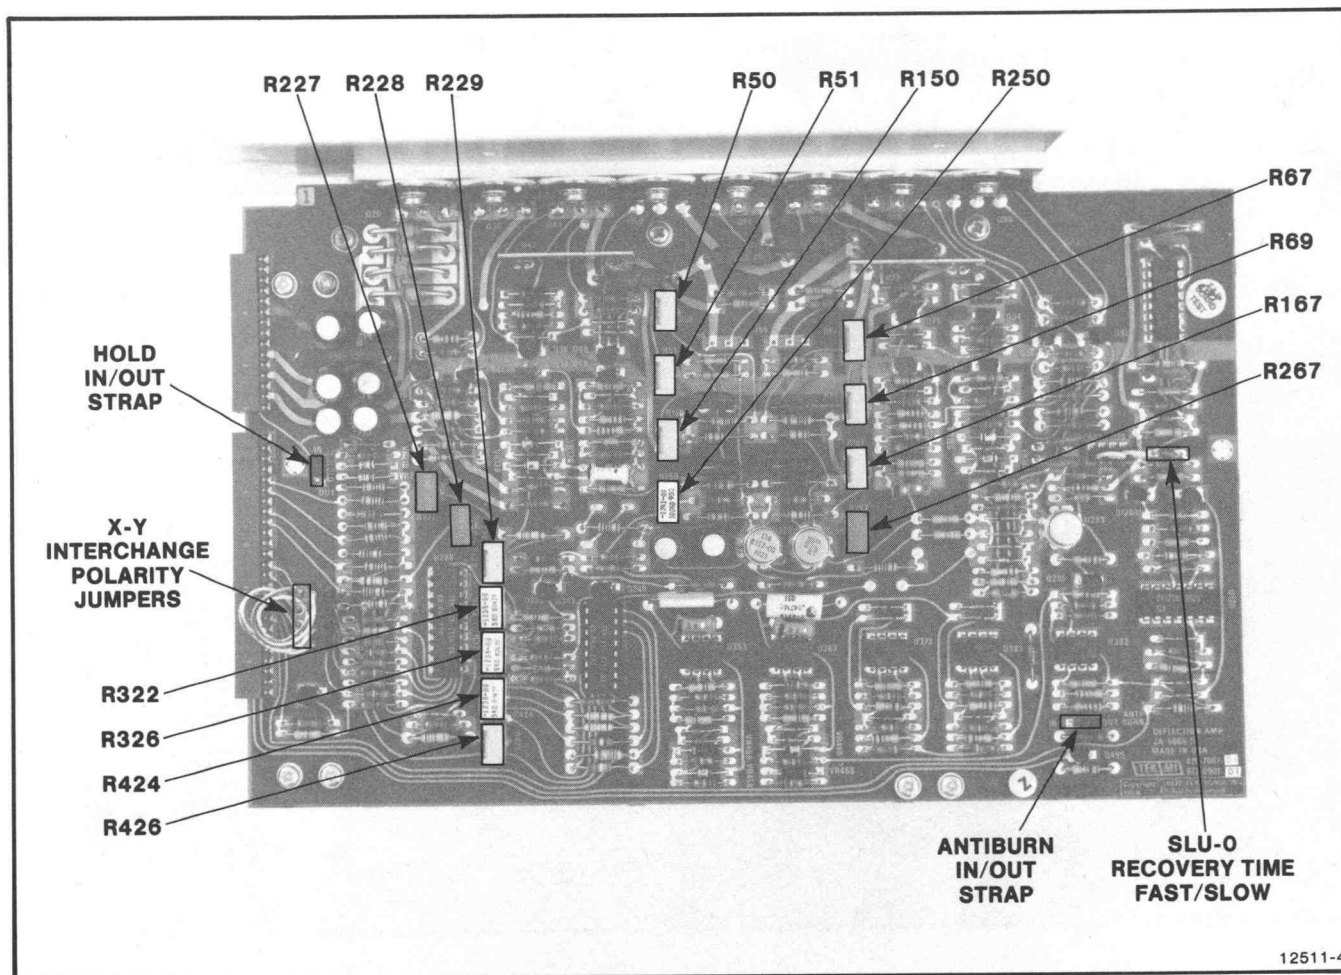

Figure 4-4. Deflection Amplifier Board Adjustments, Straps, Jumpers, and Test Points.
13. **Set** the ANTIBURN jumper to the IN (lower) position on the Deflection board. Check the J311 and J314 straps for proper installation. Make sure that the J199 four-pin jumper is set to the FAST position. And make sure that the Hold mode jumper is set to the IN position (toward the rear). Figure 4-4 shows the Deflection board straps and jumpers.